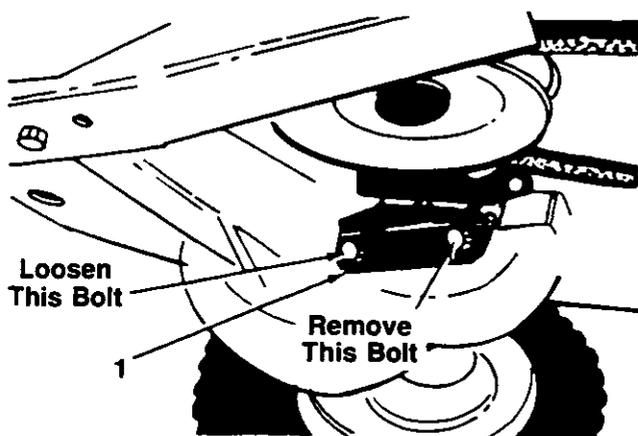

FIGURE 3.
7. Remove the front hex bolt from the lower inside belt guard as shown in figure 3.
8. Loosen the second bolt (do not remove), then pivot the guard downward, and slip the upper deck belt off the engine pulley. See figure 3.